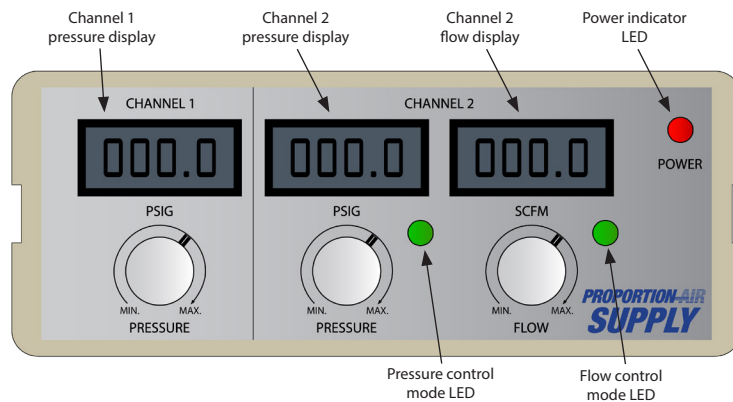

Figure 4
4. LEDs are used for further observation of user-inputs to Channel 2. The right LED is emitting light if the flow control knob (right knob) is limiting the output of Channel 2, while the left LED emits light if the pressure control knob is constricting the overall output from Channel 2. Each LED and display are labeled in Figure 4.
3. If more flow than commanded is required to reach the desired pressure, the unit will regulate the flow to what the flow command is set to. This is indicated by the flow control mode LED (Figure 4) being lit. The maximum pressure will be limited by the flow maximum (flow command) that is set.
3. If more pressure than commanded is required to reach the desired flow, the unit will regulate the pressure to what the pressure command is set to. This is indicated by the pressure control mode LED (Figure 4) being lit. The maximum flow will be limited by the pressure maximum (pressure command) that is set.